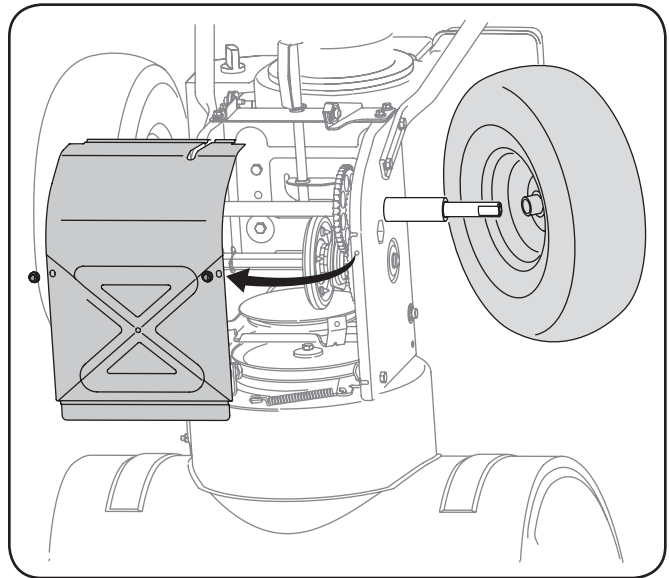

Figure 7-8
4. Remove the frame cover from the underside of the snow thrower by removing four self-tapping screws which secure it. Remove the right-hand wheel by removing the screw and bell washer which secure it to the axle. See Fig. 7-8.